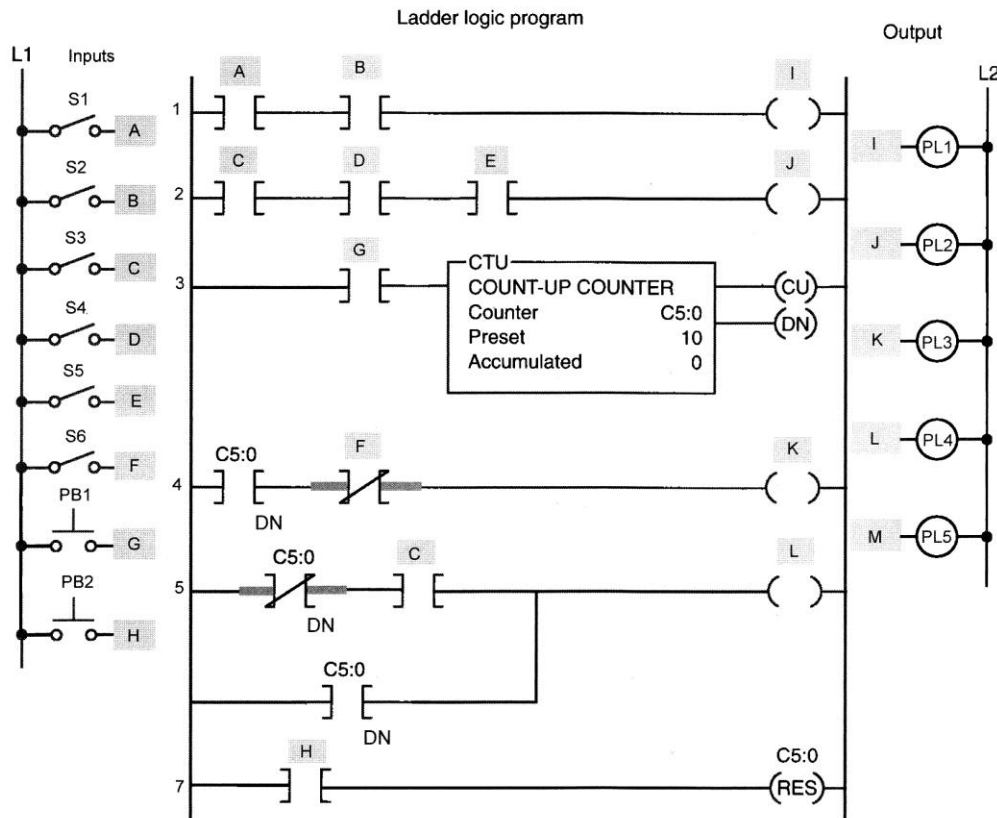

Figure 13-7 Editing and data control program for assignment 1.
1) Construct a simulated program for the program editing and data control exercise shown in Figure 13-7. Use field devices and addresses available for use with your PLC trainer. Have the program checked by your instructor after each editing change. Enter the original program into the PLC, and prove its operation.
- Place the XIC instruction (E) that was removed from rung No. 2 into rung No. 6. Insert this XIC instruction in parallel with the existing XIC instruction H.